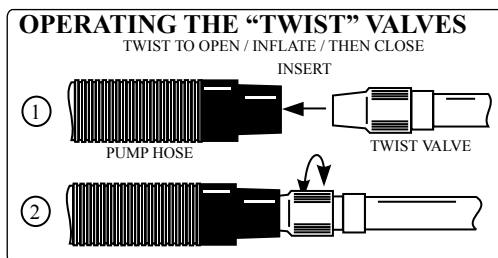

Figure 2. Inflate/Deflate Twist Valve
3. Inflate chamber 3 “floor” (using appropriate fitting). Twist valve open to inflate and twist closed when complete (*See Figure 2*). Fill until firm. **Do Not Over-Inflate!** (1.0 psi **ONLY**)